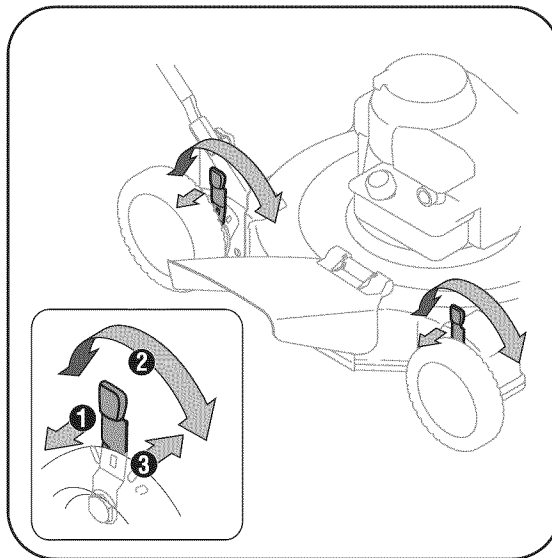

Figure 3-11: Adjusting the cutting height.
1. Depress the lever towards the wheel and slide the lever assembly to desired position to change the cutting height, Figure 3-11.